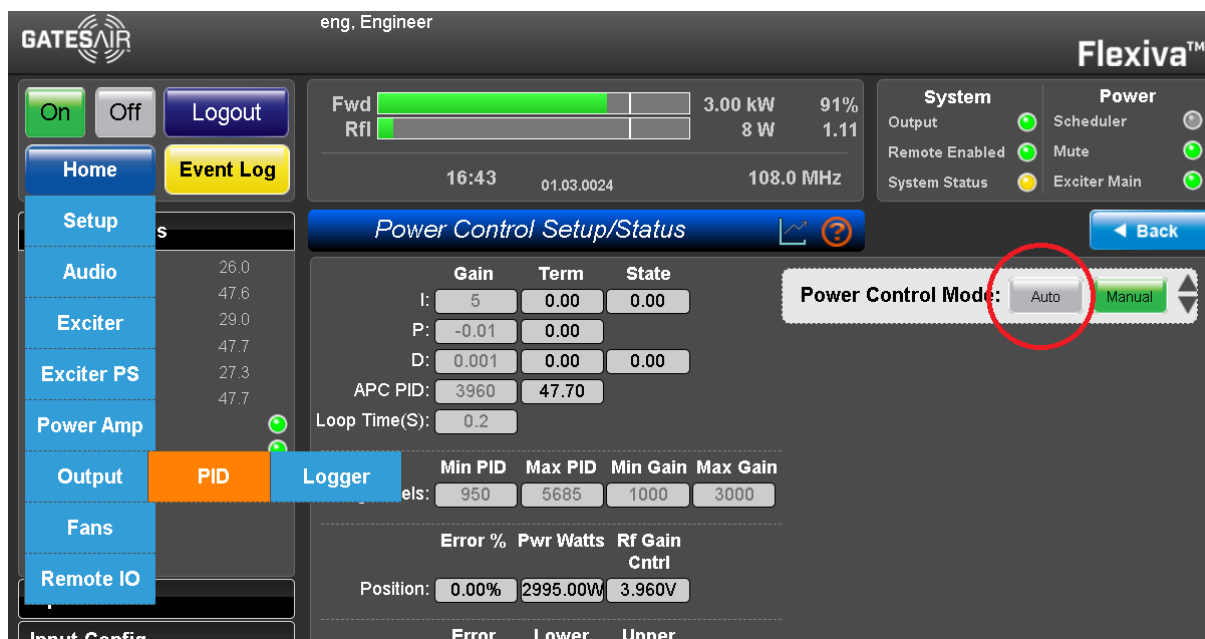

Figure 6-10 Power Control Setup/Status Screen
STEP 3 Using the Home/Menu button, navigate to the Power Control Setup/Status screen as shown in Figure 6-10. Select the "Auto" button circled below.